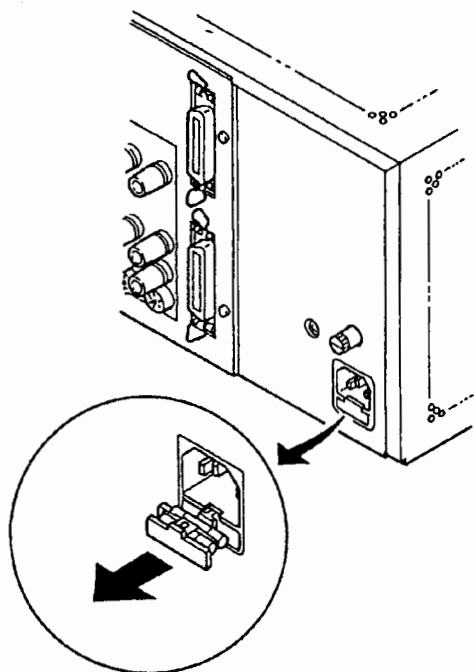

Figure 7.1
- (1) The fuse holder is at the bottom of the power connector on the rear panel. (Fig. 7.1)
- (2) Insert a screwdriver into the top of the fuse holder then pull it forward to pull out the fuse holder.
The fuse holder can house 2 fuses; the fuse in service and a spare fuse. (Fig. 7.1)